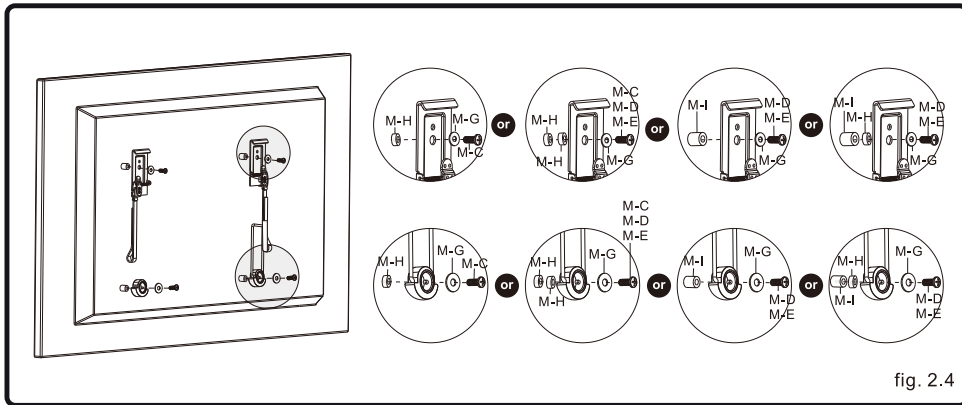

fig. 2.4
- Attach the adapter brackets and supporting spacer to the back of the screen using the appropriate combination of screws, washers, and spacers, as shown in fig. 2.2, fig. 2.3 and fig. 2.4.